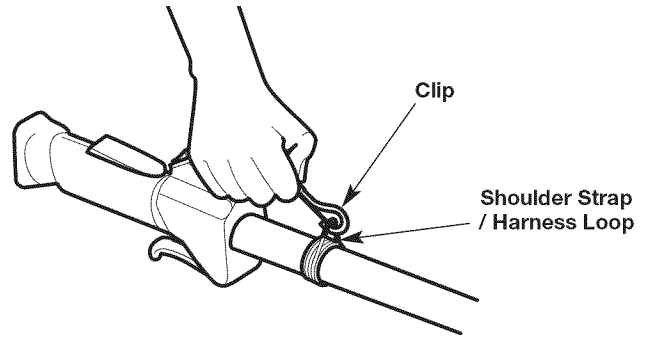

Fig. 12
5. Snap the clip onto the shoulder strap / harness loop (Fig. 12).